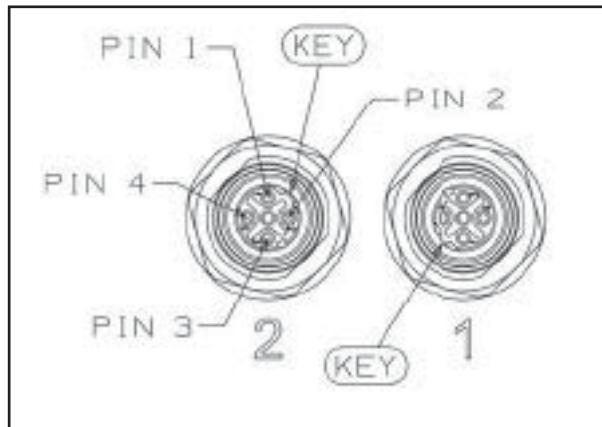
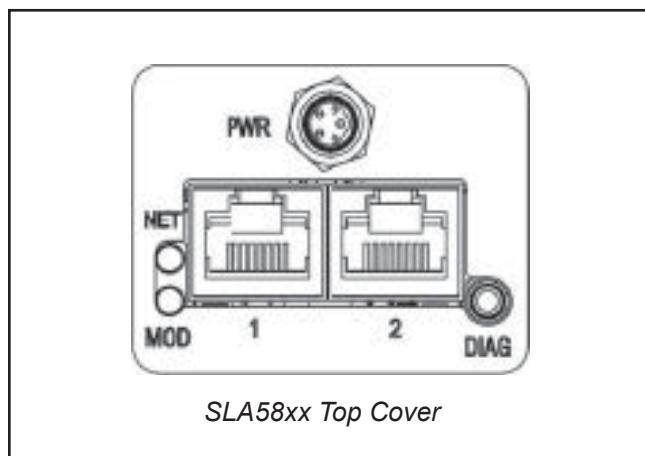

Figure 4-1 Pin Labeling of M12 Female Connectors (2 per device)
Figure 4-4: PROFINET Top Cover SLA5800
- In and Out M12 threaded female connectors labeled "1" and "2" for PROFINET™ Communications (Figure 4-1).
The available physical interfaces on the PROFINET™ SLA5800 Device are listed below (Figure 4-4):
As noted in the Physical Interface Sections, above, each SLAMF device has (2) M12 4 Pole, Female "D" Coded Connectors (Figure 4-1) labeled 1 and 2. Network connections can be made to either, or both, ports, depending on the network topology. And each SLA5800 Series PROFINET™ device has (2) RJ-45 Ethernet Connection ports (Figure 4-4). The SLA5800/SLAMF Series PROFINET™ device will support star and linear. It does not support DLR (Device Level Ring) topology.